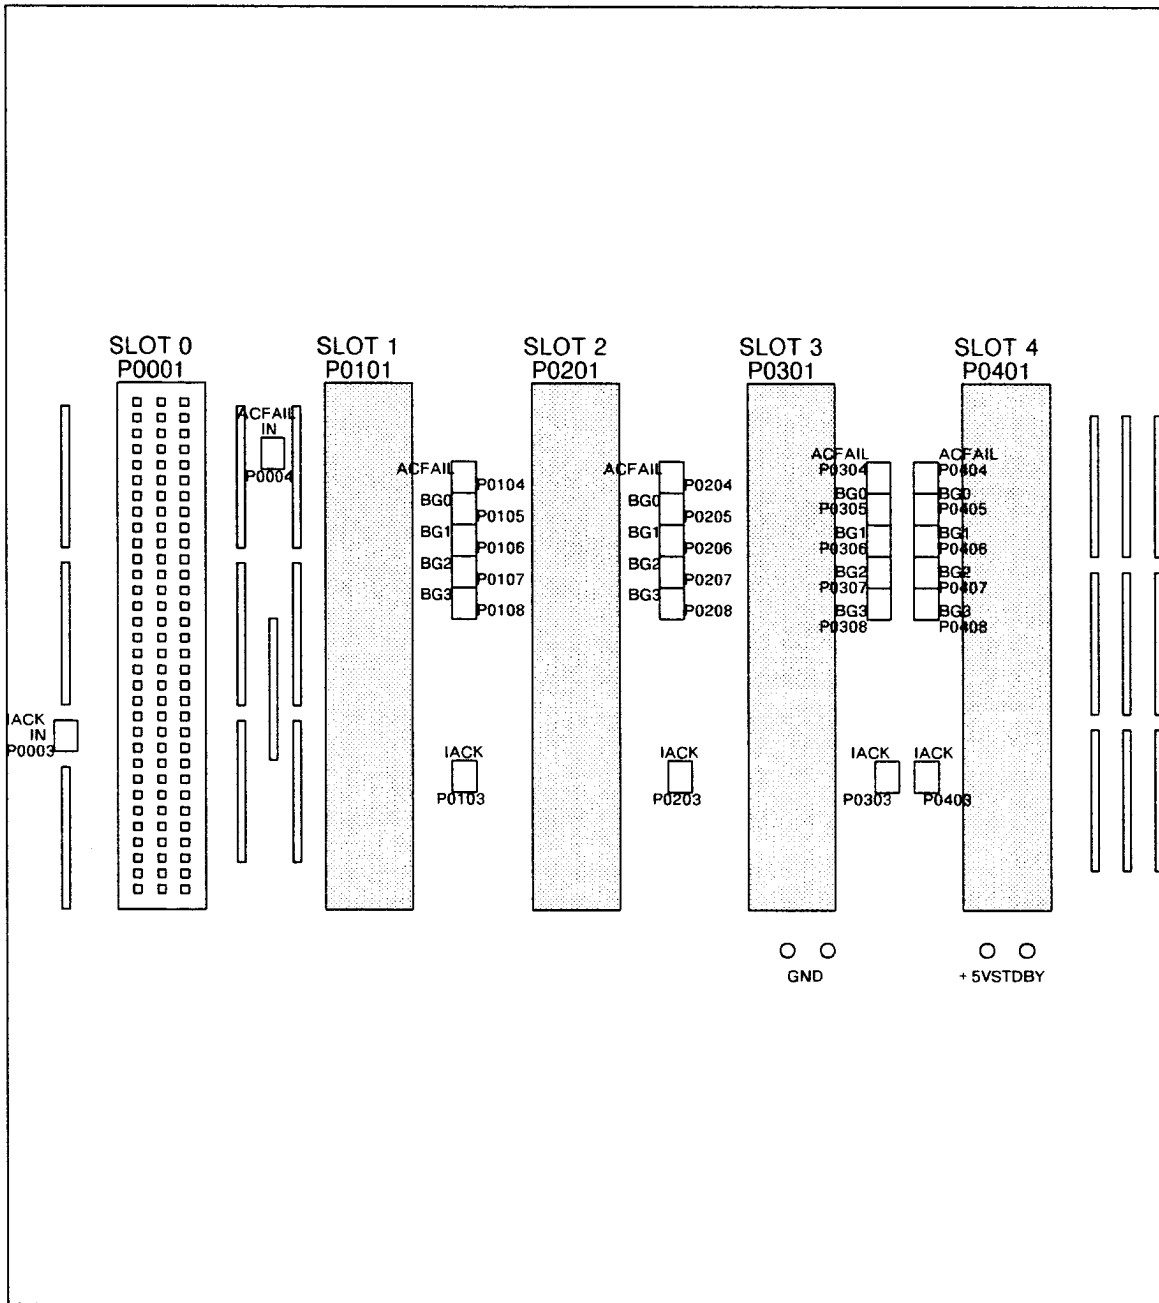

Figure 2-1. Jumper Locations
*Jumper identity is printed on the circuit board and is shown in Figure 2-1. To prevent loss or misplacement of removed jumpers, it is recommended that removed jumpers be reinstalled on one of the pins where it was removed.*
The only configuration required before placing the mainframe in operation is to make certain that the four 2-pin Bus Grant jumpers (BG0\* through BG3\*) located adjacent to Slots 1-4, and the five 2-pin Interrupt Acknowledge jumpers (IACK\*), located adjacent to Slots 0-4 on the backplane are installed or removed as required for the application (refer to Fig. 2-1). The mainframe is shipped with a full complement of jumpers installed. Before any module is installed, jumpers for the slot(s) where the module is to be installed must be checked, and removed or installed as necessary.
The names of the jumpers BG0\* — BG3\* and IACK\* are printed on the printed circuit board side facing the front of the mainframe. Figure 2-1 identifies the location of these jumpers and also identifies their "P" numbers. Beginning with Slot 1, the BG0\* — BG3\* jumpers are located to the left of the P1 connector. Beginning with Slot 0, the IACK\* jumpers are located to the left of the P1 connector for each slot. These jumpers are accessed through the front of the mainframe.
Table 2-1 provides a correlation between the BG0\* — BG3\* and IACK\* jumper names printed on the Backplane and the "P" numbers shown in Figure 2.1.